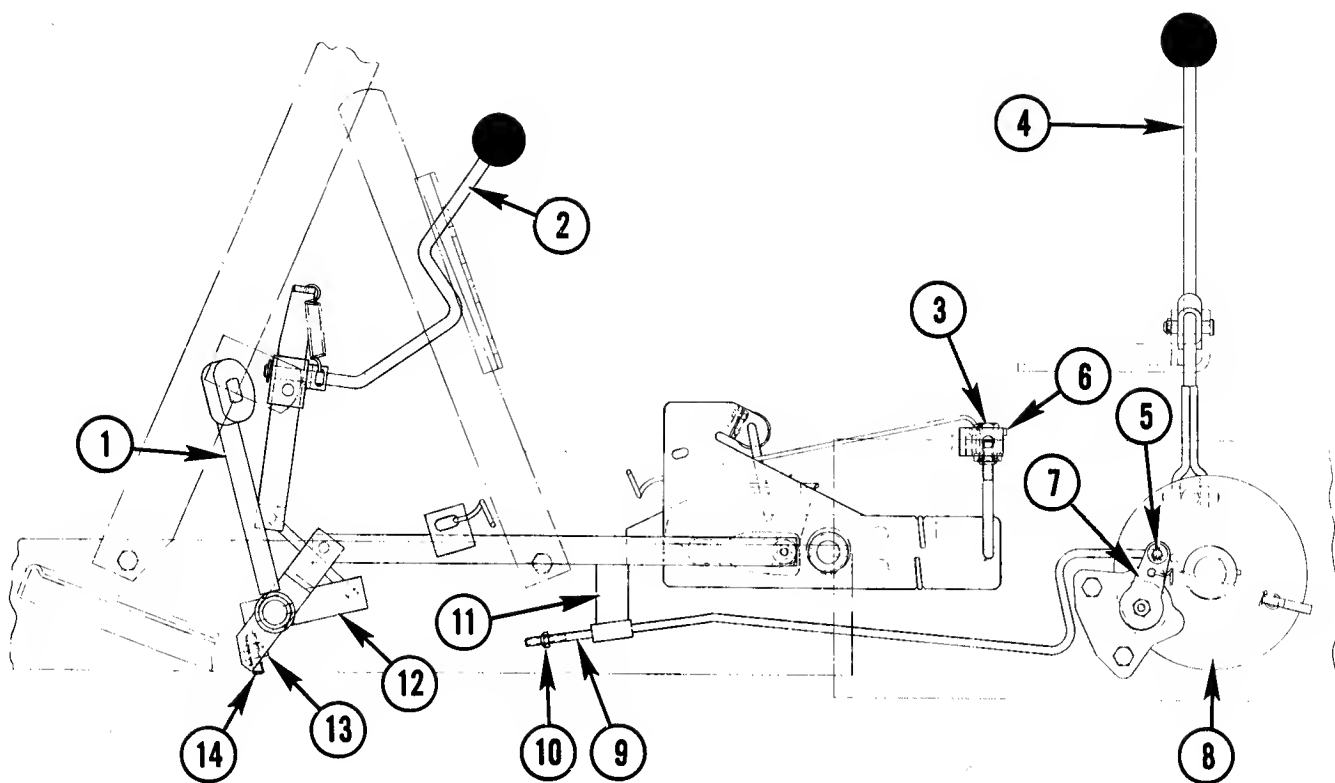

Fig. 35 — Transmission Control and Brake Adjustment
TRANSMISSION AND BRAKE TEST — FIG. 35
2. Increase effective length of brake rod, No. 9, Fig. 35, by backing off adjusting nut, No. 10, to end of rod.
1. Turn adjusting nut, No. 5, Fig. 35, on brake assembly,